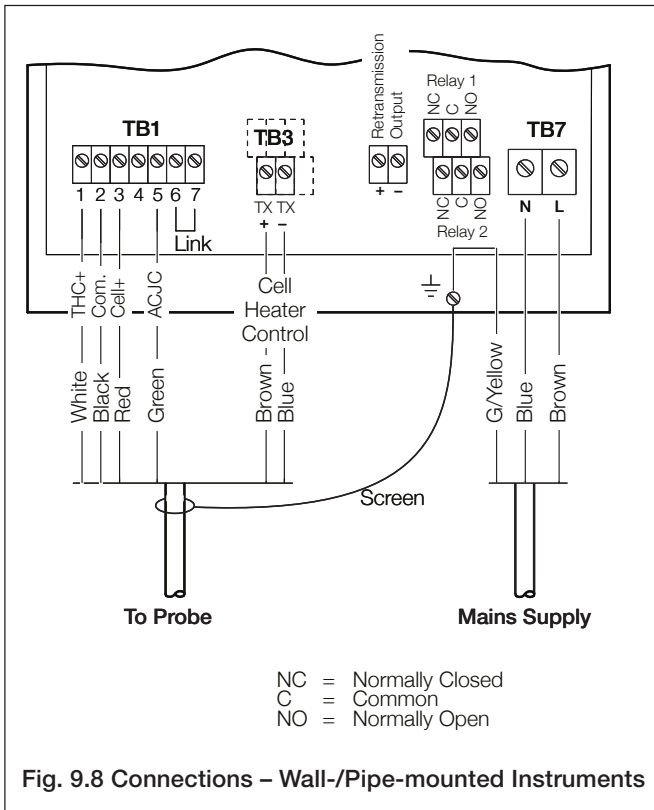

Fig. 9.8 Connections – Wall-/Pipe-mounted Instruments
9.5 Connections, Wall-/Pipe-mount Units – Fig. 9.8